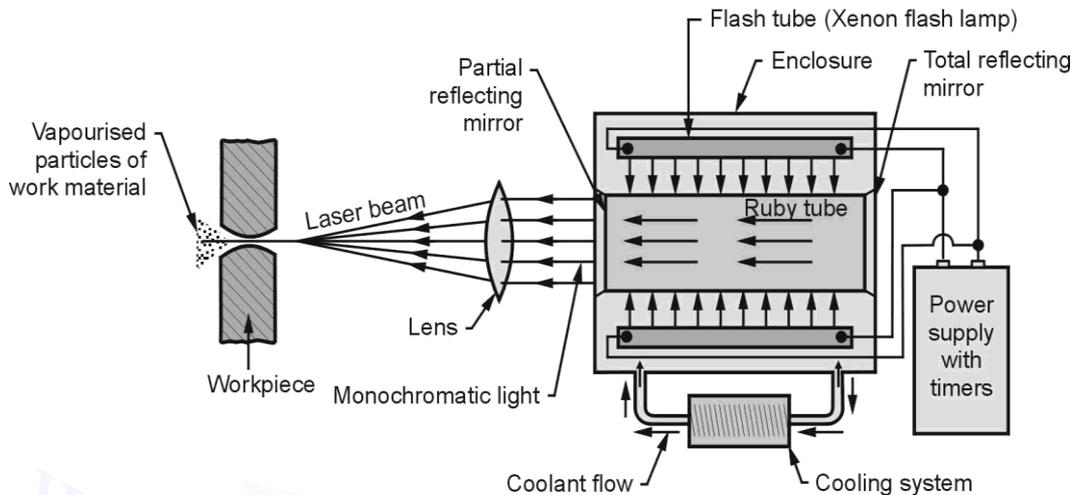

Fig. 2.19 : Laser beam machining
- Fig. 2.19 shows the setup of laser beam machining, which consists of a stimulating light source (Xenon flash lamp) and a laser rod.